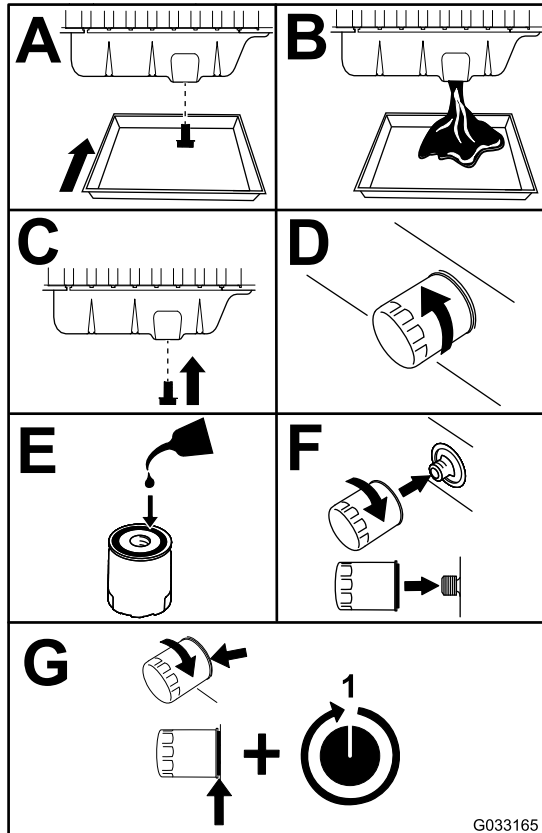

Figure 51
3. Replace the engine oil and filter (Figure 51).